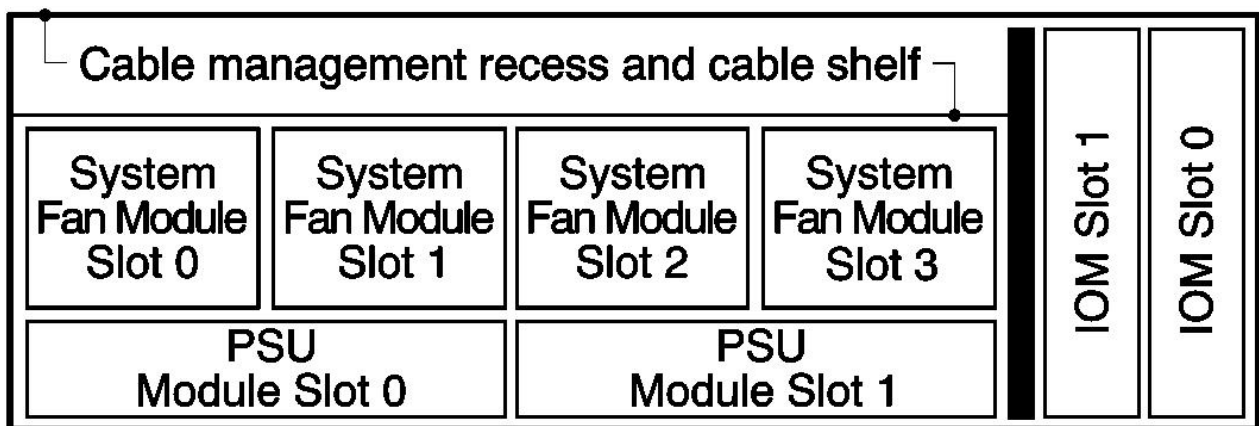
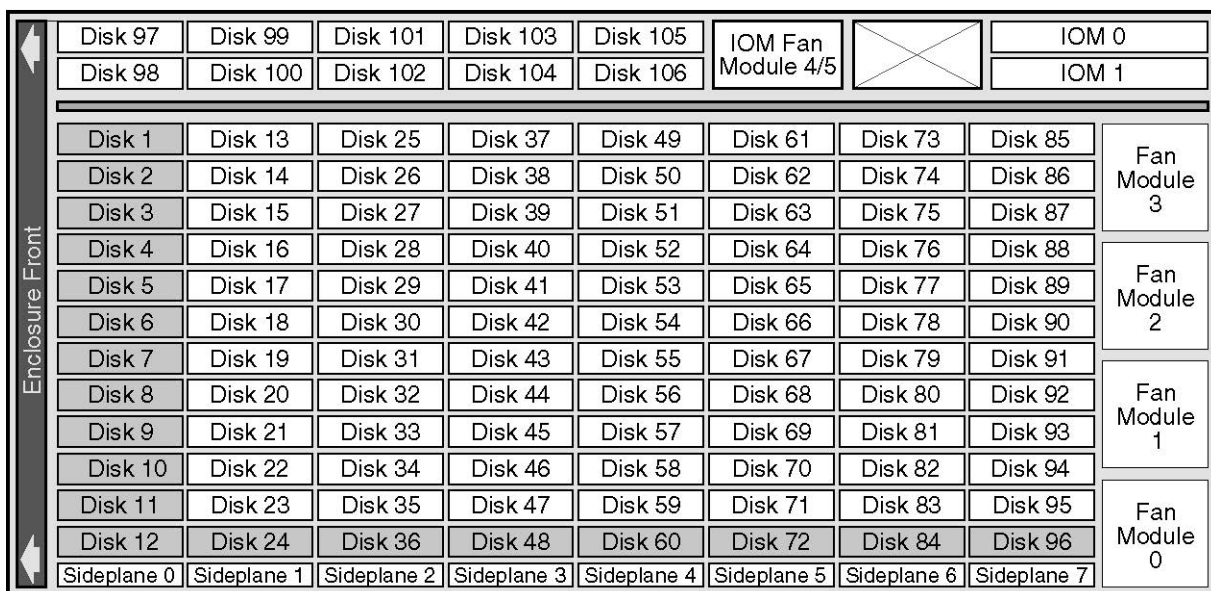

Figure 5. Model 106 enclosure – rear panel module slot index diagram
Figure 11. Model 106 enclosure – top panel module – slot index diagram
See Figure 5 on page 10 for a conceptual diagram showing module slot-indexing as viewed from the rear panel.
Figure 11 on page 13 provides a conceptual diagram of module slot-index numbering as viewed from the top of a Model 106 enclosure with all covers removed. To view, the arrangement of PSU module slots-beneath the system fan slots-see Figure 5 on page 10.
The Model 106 is designed for use with a full load of disks; however, it may also be partially populated. In Figure 11 on page 13, Gray-colored disk slots indicate minimum disk module placement for power and cooling reasons. These slots should be populated in all cases. The acronym DDIC (Disk Drive In Carrier) is used as a synonym for disk drive module.
The Model 106 does not ship with pre-installed disk drive modules. When installing disk drive modules, be mindful of the disk slot numbering index shown in Figure 11 on page 13. The following rules apply when populating the Model 106 enclosure with disks possessing 12 watts maximum drive power per slot:
- Populate the minimum disk slot arrangement indicated by gray-colored disk slots in Figure 11 on page 13.
Important: If the Model 106 enclosure is configured with a single expansion module, it must be installed in IOM slot No.0 (as shown in Figure 11 on page 13). An IOM blank must be installed in the adjacent slot (No.1). This configuration is required to ensure sufficient air flow through the enclosure during operation.